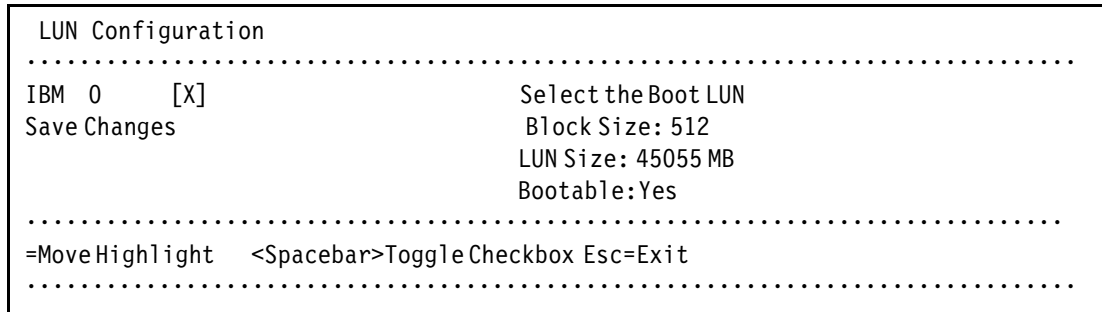

Figure 9-23 LUN Configuration panel with LUN 0
16. Check the LUN information. Make sure that you see LUN 0 (Figure 9-23).